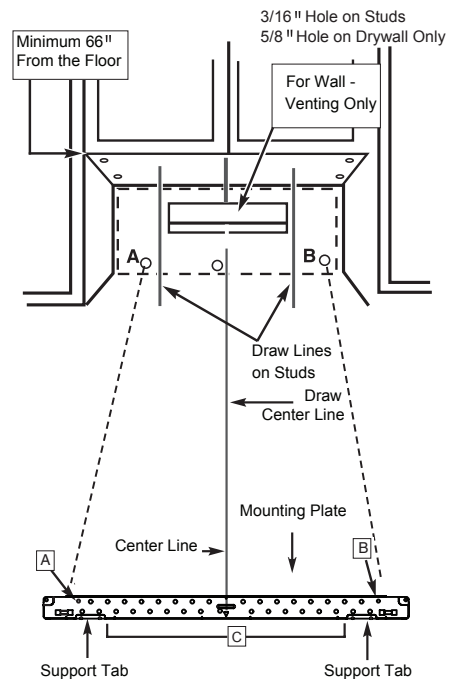
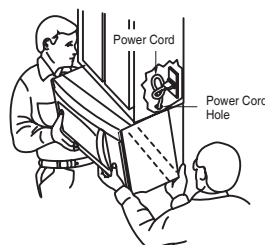

Figure 30
Figure 32
2. Drill holes at points A, B. Drill the third hole inside area C, through one of the bottom holes to match the location of a stud. If there is a stud, drill a 3/16" hole for lag screws. If there is no stud, drill a 5/8" hole for toggle bolts. These holes must be used for mounting. If the holes are not used, the installation will not be secure. Installer must use these holes for proper installation. See Figure 30. Use toggle bolts through these holes, unless one of them lines up with a stud. Use a wood screw for studs. Make sure to use at least 1 lag screw in a stud, and 2 toggle bolts in the drywall or the plaster.
1. Carefully lift microwave oven and hang it on support tabs (See Figure 30) at the bottom of the mounting plate. Reaching through upper cabinet, thread power supply cord through the power supply cord hole in the bottom of the upper cabinet. See Figure 32.